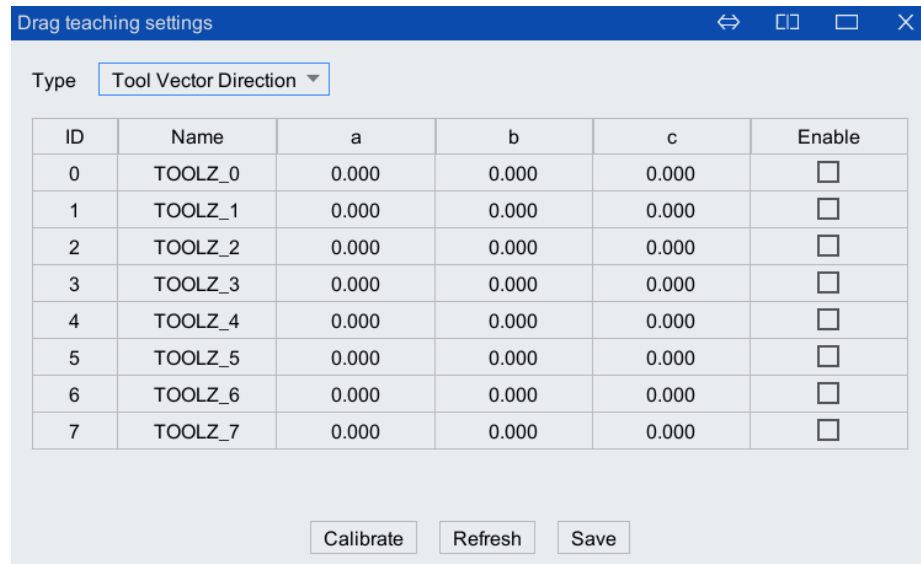

Figure 5-33 Safety zone plane parameter setting interface
Step3. In the pop-up [Drag teaching settings] interface (as shown in Figure 5-33), configure [Type] to "Tool Vector Direction", click to select the row of the tool to be calibrated, and click <Calibrate>.